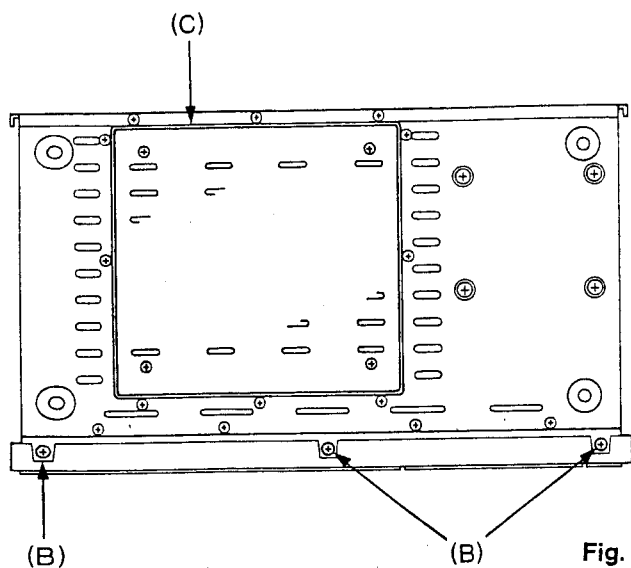

Fig. 2
3. Remove three screws (B) fastening Front Panel. (Fig. 2)
1. The removal of Cabinet Bottom Cover (C) will give an access to the repair or adjustment work of Main Supply Printed Circuit Board. (Fig. 2)